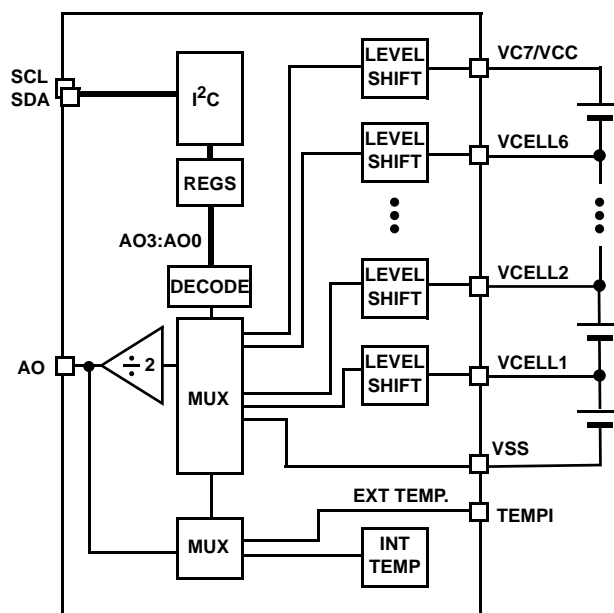

FIGURE 6. ANALOG OUTPUT MONITORING DIAGRAM
The ISL9208 devices can be used to externally monitor individual battery cell voltages and temperatures. Each quantity can be monitored at the analog output pin (AO). The desired voltage is selected using the I²C interface and the AQ3:AQ0 bits. See Figure 6.